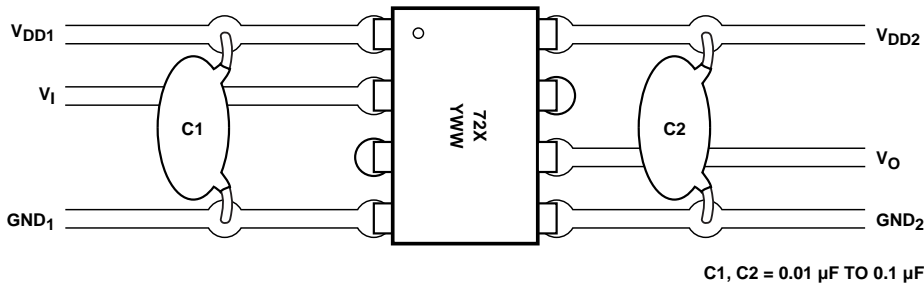

Figure 11. Recommended printed circuit board layout.
0.1 μ F. For each capacitor, the total lead length between both ends of the capacitor and the power-supply pins should not exceed 20 mm. Figure 11 illustrates the recommended printed circuit board layout for the HCPL-772X/072X.